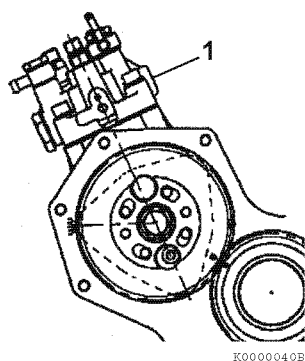
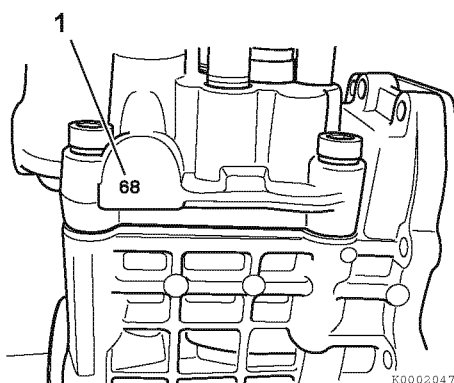

Figure 7-38
Figure 7-39
1. Locate and record the fuel injection pump timing index number (1, **Figure 7-39**) stamped into the boss on the engine side of the fuel injection pump housing (1, **Figure 7-38**). Treat this number as though there is a decimal point between the two digits. i.e. 68 = 6.8